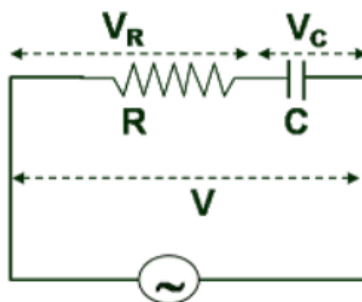

Figure 6. R-L series range
1. Arrange the circuit as shown in Figure 6 with $C = 1 \mu\Phi$ and $R = 3900 \Omega$.